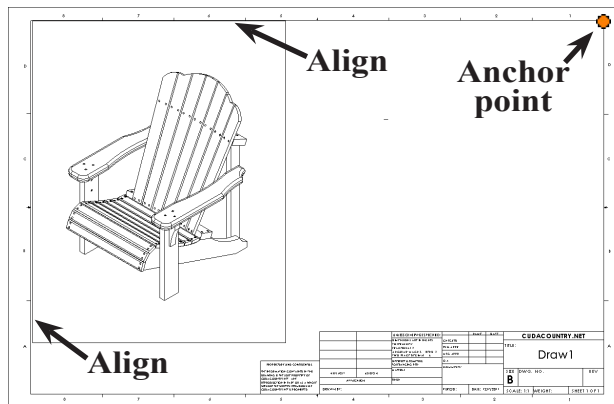

Fig. 2
Step 7. Move the cursor into the graphic area. Align the left edge of the preview with the left border line and align the top of preview with the top border line. Click to place the Isometric view as shown in **Fig. 2**.
Step 2. Click **top right corner** of the border lines, **Fig. 2**.